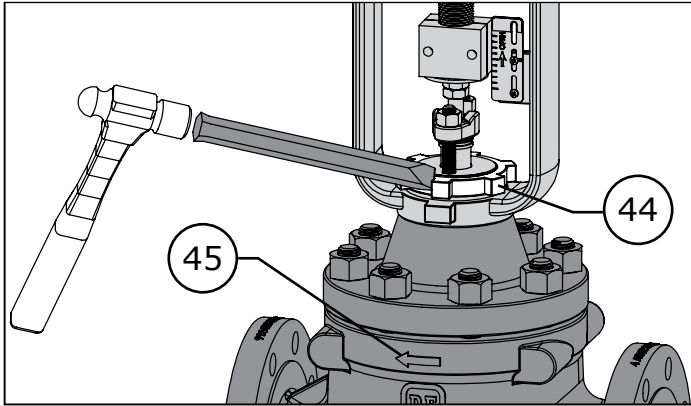

Figure 4 Yoke Nut being loosened with a Chisel
- 6 Use a blunted heavy chisel to loosen the yoke nut (Key 44). Unscrew the yoke nut and remove the actuator from the valve. If the actuator was energized during removal, de-energize the actuator (Refer to Figure 4).